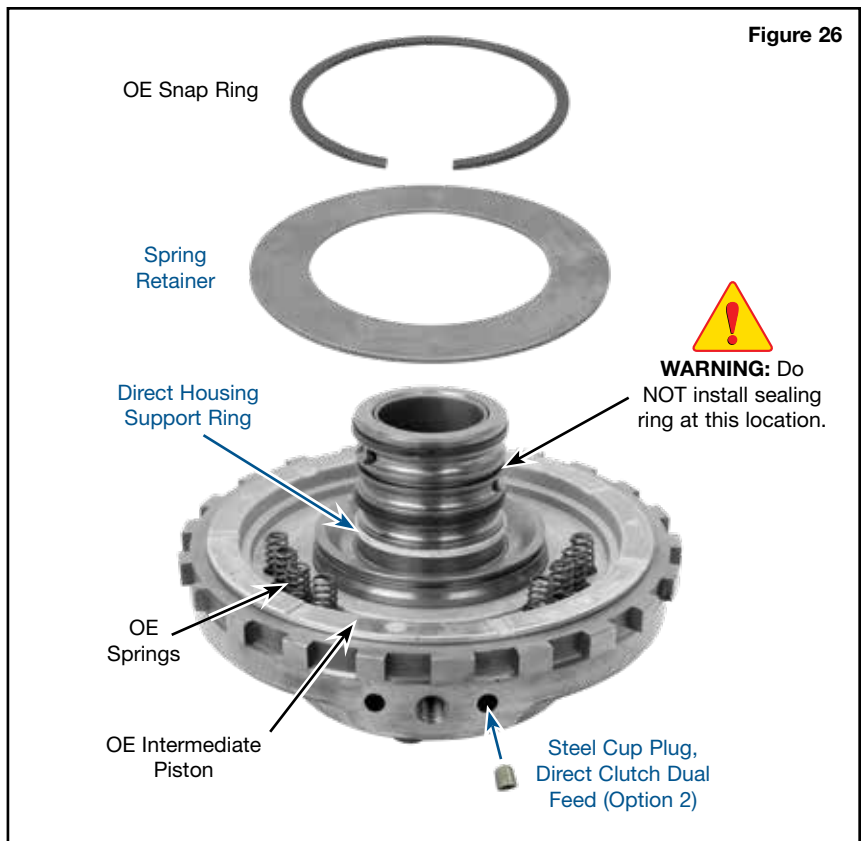

Figure 26
Do NOT install second sealing ring on center support, (Figure 26, page 9).
- **OPTION 2:** Use Sonnax steel cup plug in the center support (Figure 26, page 9).
Option 2 (Figure 26, Page 9)
- Install springs into intermediate piston (Figure 26).